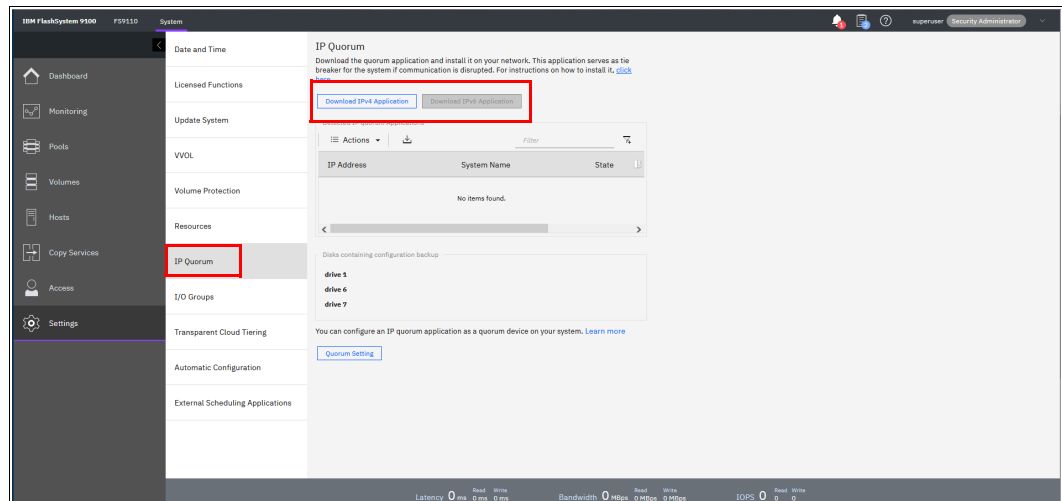

Figure 4-105 IP Quorum settings
1. If your IBM FlashSystem storage system is configured for IPv4, click **Download IPv4 Application**. If it is configured for IPv6, select **Download IPv6 Application**. In our example, IPv4 is the option, as shown in Figure 4-105 on page 273.